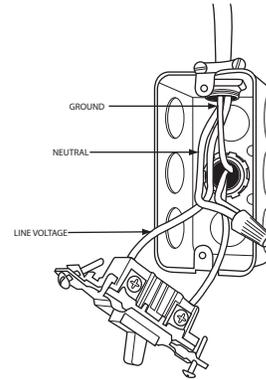

Fig. 27 – Field-Supplied Electrical Box on Furnace Casing
1. Refer to Fig. 27 when installing an electrical box.